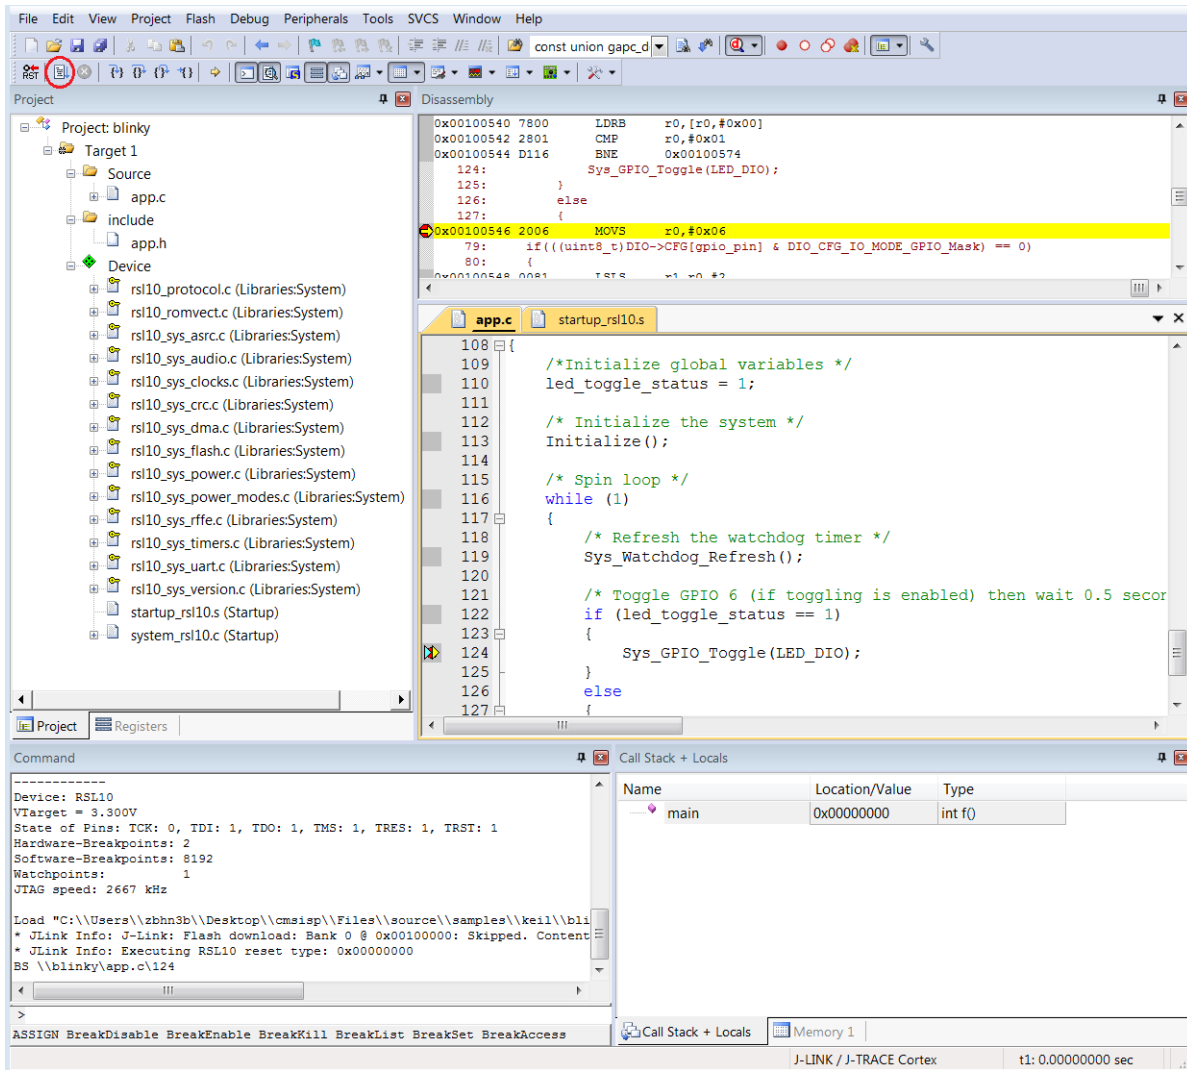

Figure 25. Debug Session in the Keil uVision IDE
3. The application runs up to the first breakpoint in *main*, as shown in Figure 25. You can press F11 multiple times to step through the code and observe that the LED changes its state when the application executes the function *Sys_GPIO_Toggle (LED_DIO)*.